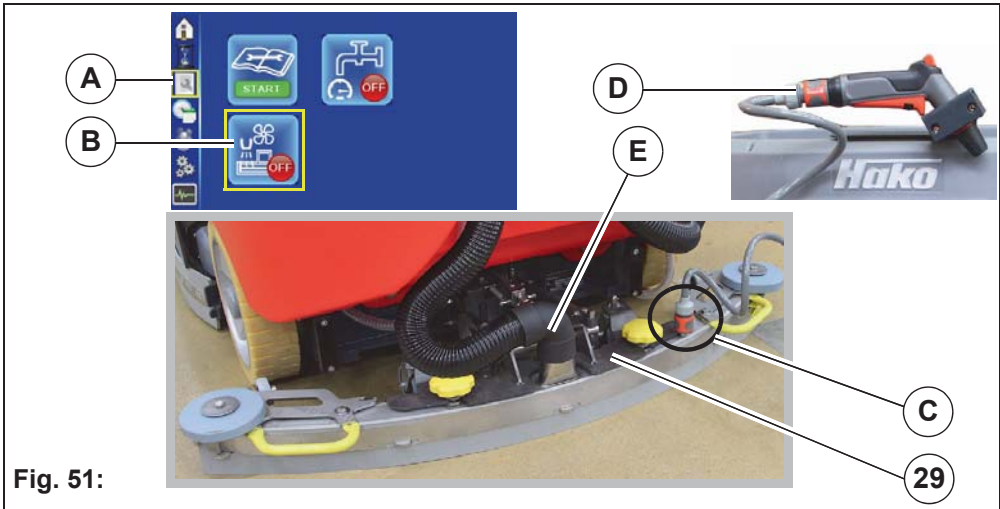

Fig. 51:
3. Pull off the suction hose **Fig. 51-E**.
2. In the sub-menu, call up menu item *Maintenance page* Fig. 51-A. Select soft key *Squeegee cleaning* Fig. 51-B with the turn-push knob and activate. The squeegee is lowered and the suction is switched on. The remaining squeegee cleaning time is displayed in 5 second intervals.
4. Connect hose to the connection of the squeegee Fig. 51-C using the 1/2" quick coupling, and to the water tap of the service connection.
4. Disconnect hose from the spray nozzle Fig. 51-D and attach to the squeegee connection Fig. 51-C.